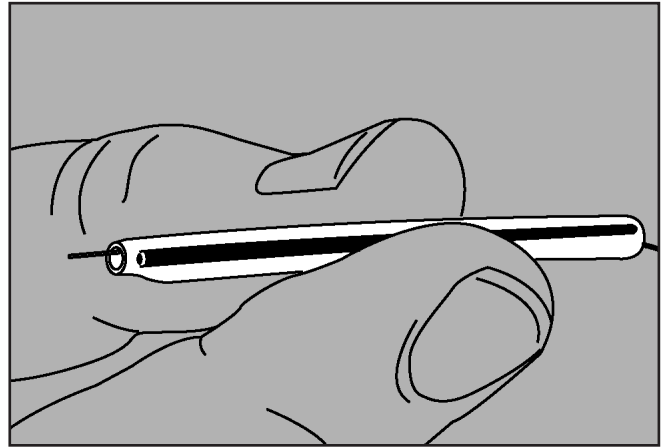

Figure 15
15. Select and carefully remove the two fibers to be spliced from splice tray. Position a splice protector over one fiber only away from the work area. Prepare, clean, and cleave both fibers for splicing as per company practice. (Figure 15)